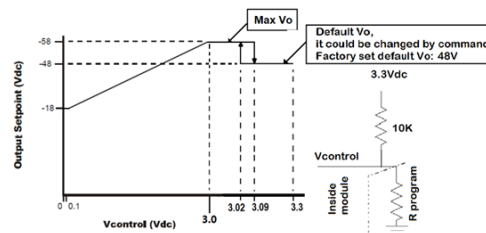

Figure 1. Diagram showing how output can be margined using Vcontrol adjustment.
**Margining:** The 48VDC output can be adjusted between 18 – 58VDC by a control voltage on the Margin pin. This control voltage can be generated either from an external voltage source, or by forming a voltage divider between 3.3V and Logic\_GRD, as shown in Fig. 1. The power supply includes the high side pull-up 10kΩ resistor to 3.3VDC. Connecting a resistor between the margin pin and Logic\_GRD will complete the divider.